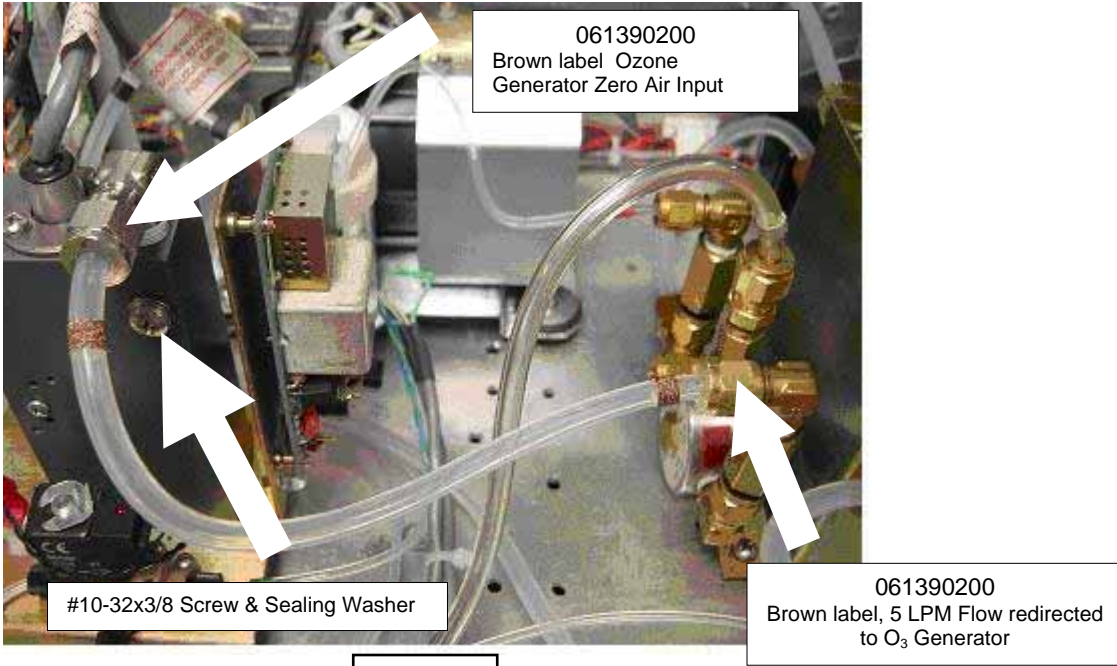

Figure 3
8. Connect one end of the brown labeled 1/4" Teflon tubing included in the kit to the brass elbow on top of the O₃ generator and the other end to the brass elbow on the 5 LPM flow control. See Figure 3.